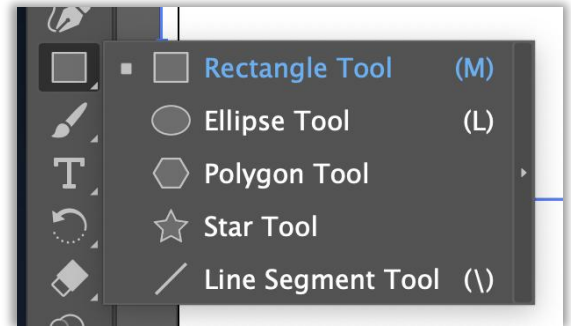

Figure 2: An expanded view of the Shape Tool.
2. Select the shape tool, which you can see in **Figure 2**. If you right or double click it, you can get it to expand and you can choose another shape if you'd like. However, this part will review using the rectangle tool first.